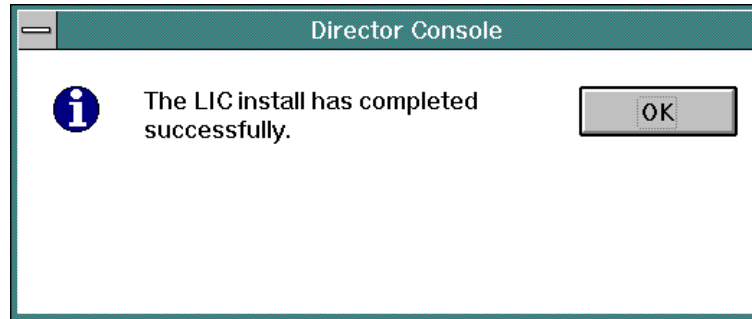

Figure 172. LIC Install Complete Message Box
17. When the LIC install completes, the *LIC Install Status* message box closes and the message box shown in Figure 172 appears.